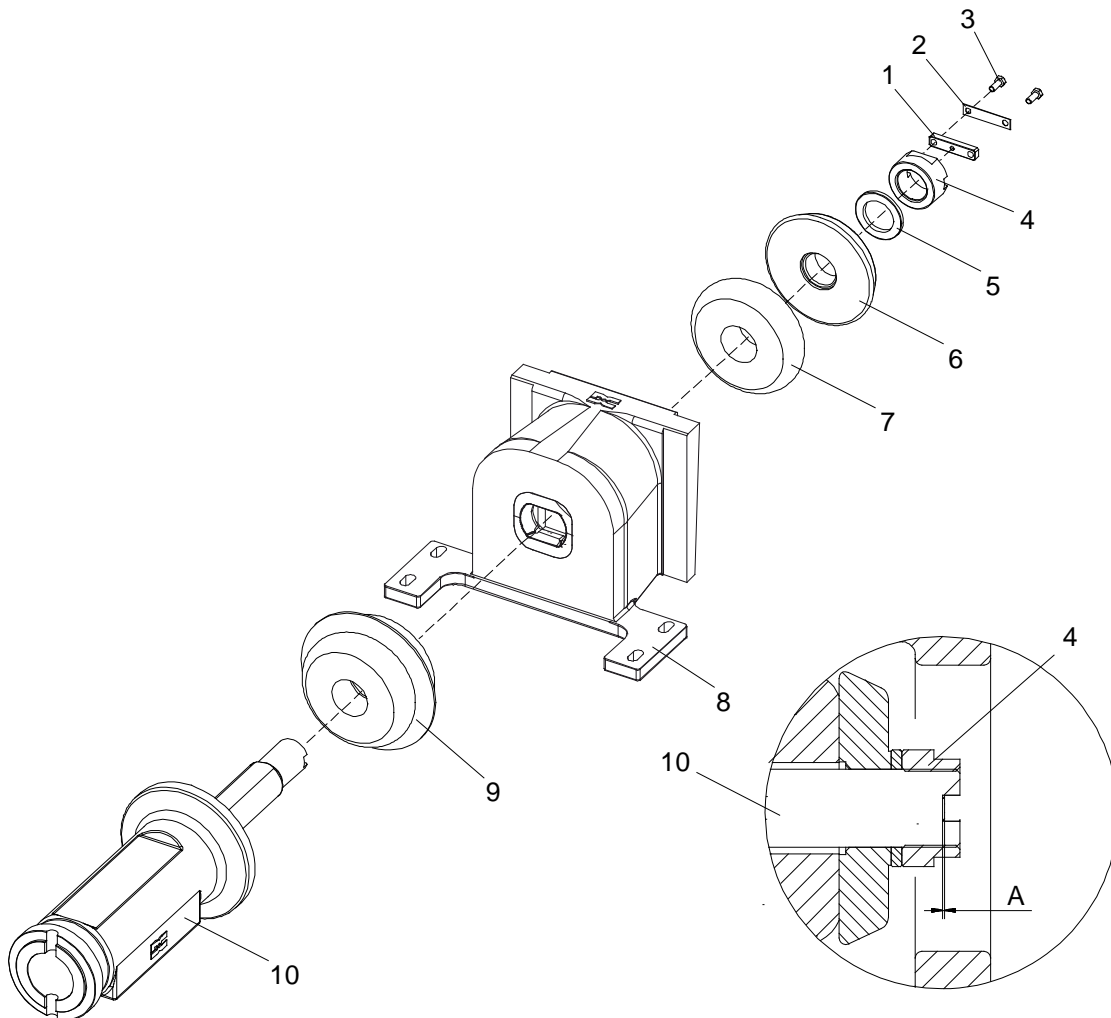

Fig. 4 Repair of Draft Gear
Text within brackets () refers to Fig. 4.
1. Fit first spring (9) to draw bar (10).
2. Apply Lagermeister 3000+ to bushing inside anchor (8).
3. Fit the anchor (8) to the draw bar (10).
4. Fit the second spring (7) to the draw bar (10).
5. Apply Lagermeister 3000+ to washer (5) and inner diameter of plate (6).
6. Apply Molykote 1000 to nut (4). Fit plate (6), washer (5) and nut (4).
7. Place clamp, 169895 against plate (6) and place assembly in a hydraulic press.
8. Compress the elastomer spring package a few millimeters. Adjust the distance between the bottom of the key groove in the nut (4) and the bottom of the key groove in the draw bar (10). See Fig. 4, correct distance (A) is 1.5 ± 0.75 mm.
9. Fit key (1), securing plate (2) and mount the screws (3). Bend two corners of the securing plate (2) up against screw heads to secure the screws (3).